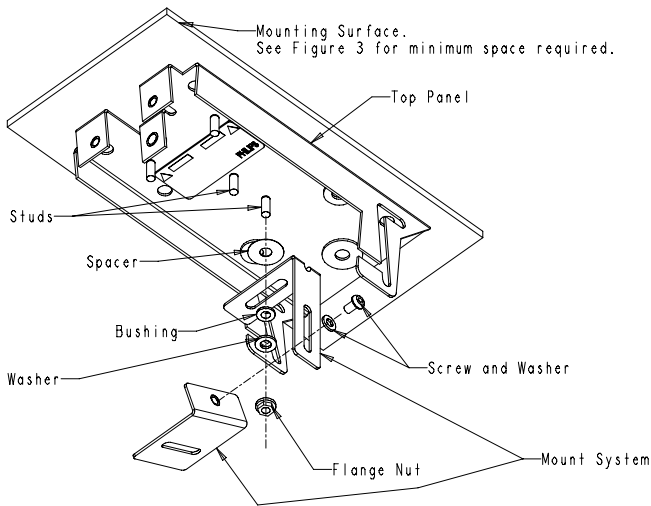

Figure 6: Installing the Mount System
- Reattach the camera mounting system to the top panel using the same hardware that was removed in step 5 of section 5.1. Use either of the two studs near the center of the panel, depending on the camera / lens size. See figures 6 and 7.